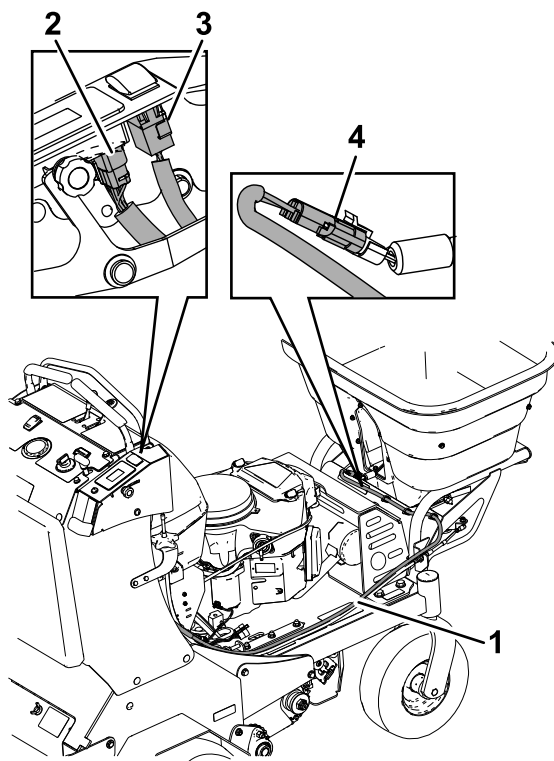

Figure 6
2. Plug the hour meter and ON/OFF connectors on the spreader harness into the switches on flow control panel (see Figure 6).
3. Route the harness along the right side of the machine, following the control cable. Place the harness on top of the control cable and slide it into the notch of the hopper bracket. Continue to route the harness between RH hopper bracket and hopper tube. Connect the spreader harness to the spreader motor as shown in Figure 6. Insert the three harness tie clips into the holes of the hopper mainframe to secure the harness.